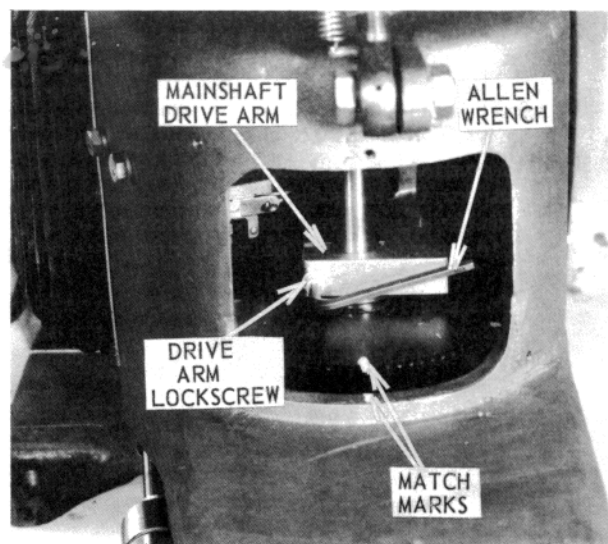
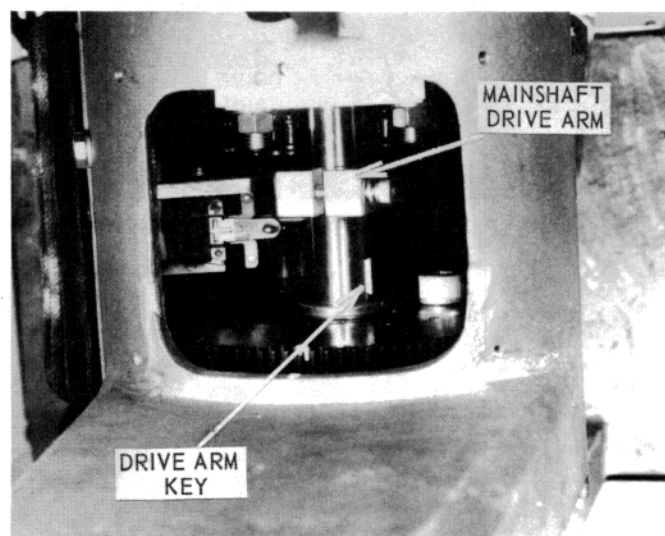
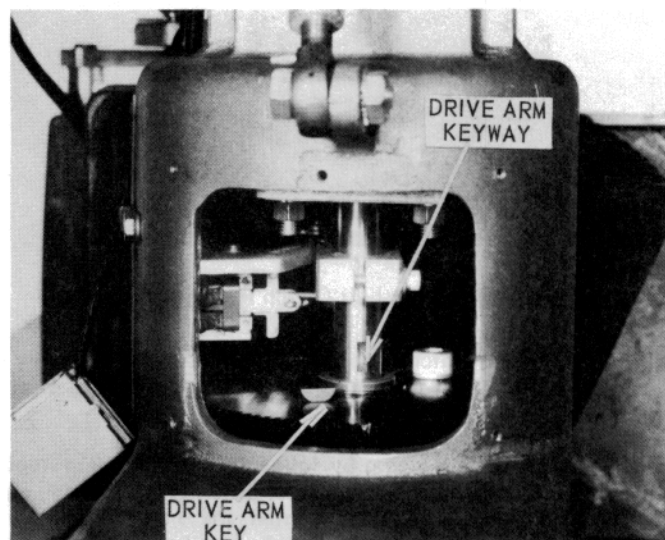

Figure 35 — Mainshaft Drive Arm and Lock Screw
Figure 36 — Mainshaft Drive Arm and Key
Figure 37 — Mainshaft Drive Arm and Key
- 1.2.12 Paint match mark on mainshaft gear and housing to retain orientation (see Figure 35).
- 1.2.13 Loosen the mainshaft drive arm lock screw (see Figure 35), slide the drive arm upward (see Figure 36), and remove the drive arm key (see Figure 37).